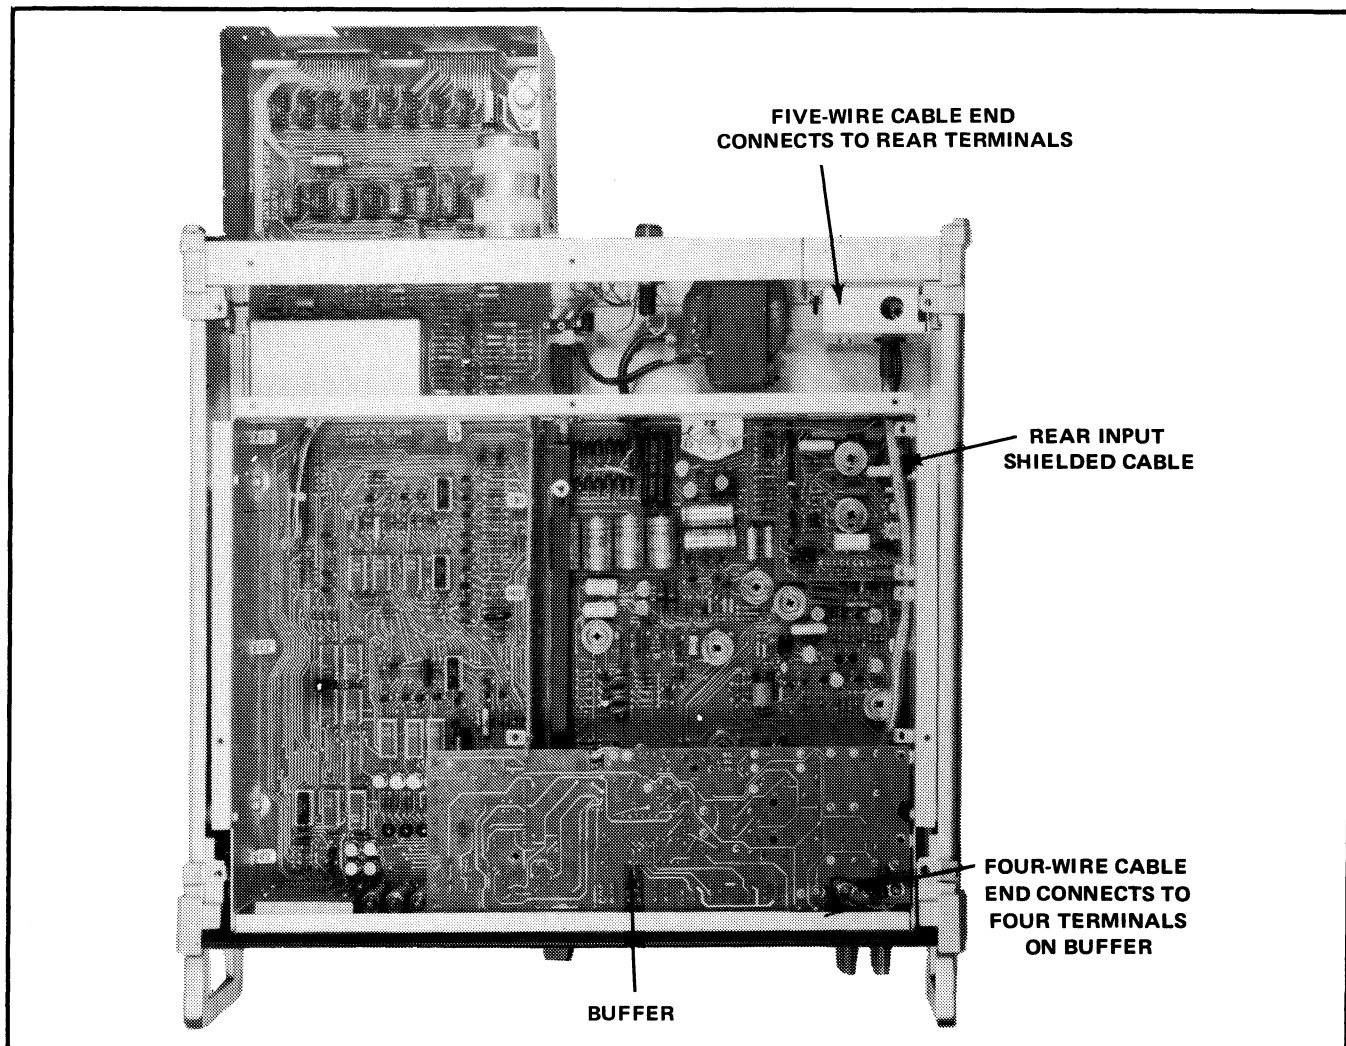

Figure 6-3. SHIELDED CABLE INSTALLATION
- Install the shield cable supplied in the kit so that the cable end with five wires passes through the grommated hole in the bulkhead just in front of the rear terminals. (See Figure 6-3). The other end of the cable (four wires) should pass between the buffer and the small guard cover on the main